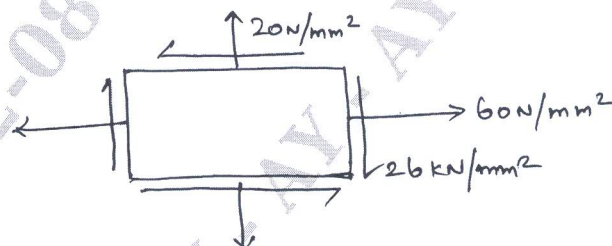

Fig.Q7(b)
b. Evaluate the principal stresses and principal planes for the state of stress shown in Fig.Q7(b).